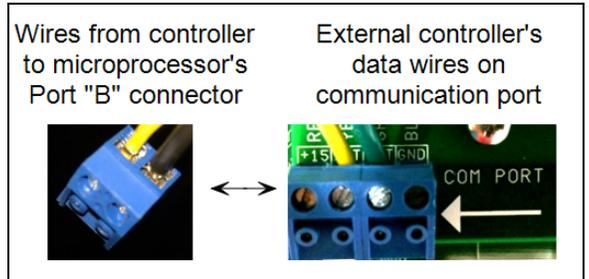
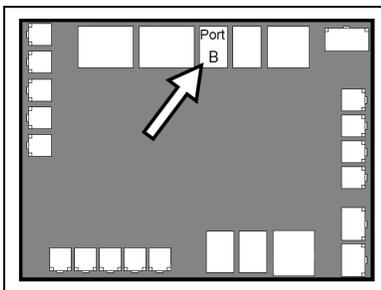

Figure 1
Figure 2
4. Connect control wires to the heat pump's "Port B" of the microprocessor as indicated. See Figure 1 and Figure 2.